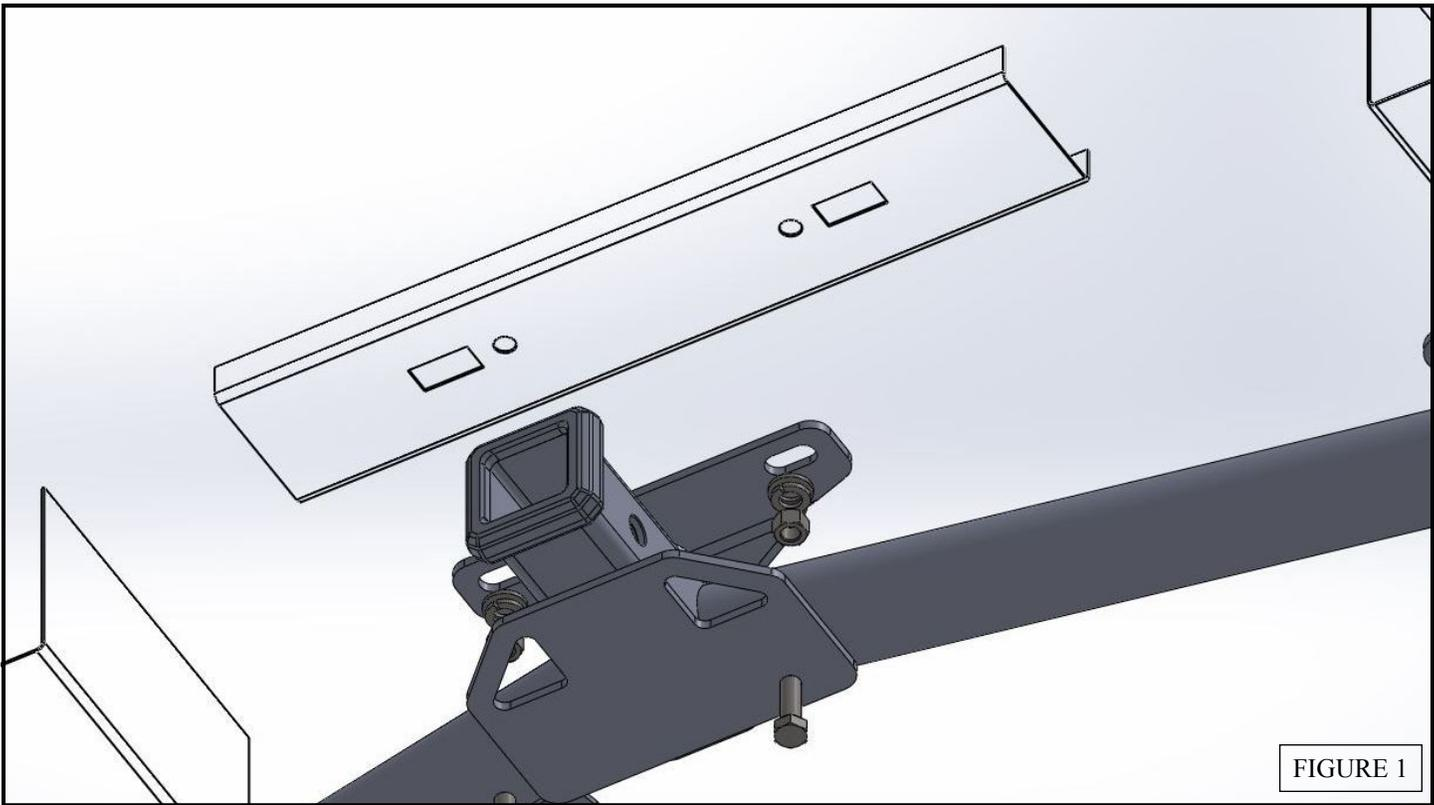

FIGURE 1
3. At the center mounting location, some vehicles will have M12 threaded holes in the channel. If the vehicle does not, install one M12 stud plate through the square hole so the stud is facing down through the round hole. Do this for both mounting locations. FIGURE 1